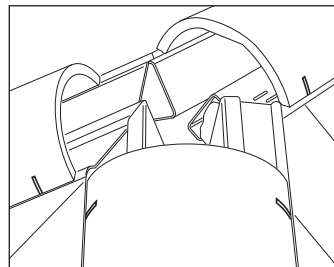

Fig. 13 – Slots cut in ridge/hip tiles
- 24 Place purpose-made Styrosun® PVC apex cap suitable for roof pitch, over uppermost ridge/hip tiles, and mark position of two cut out slots at lower edges. Remove cap and cut a small corresponding slot in hip/ridge tile, maximum 5mm deep (Fig. 13).